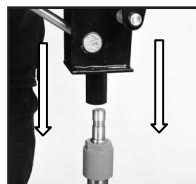
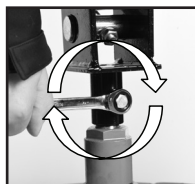

Fig. 10
Fig. 11
3. Lift the main support plate and align and feed over the hydraulic lifting arm (Fig 10) and lock into position with the supplied bolt (Fig 11).